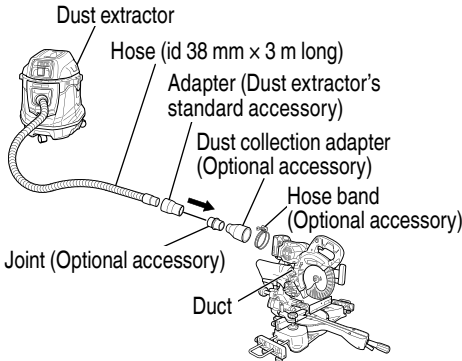

Fig. 52
15. Connecting the dust extractor (Sold separately) (Fig. 52)
- (1) Connect in order of hose (id 38 mm x 3 m long) and adapter (Dust extractor's Standard accessory) joint (Optional accessory) and dust collection adapter (Optional accessory) with the duct of power tool. Connection is done by pressing in the direction of the arrow. (Fig. 52)